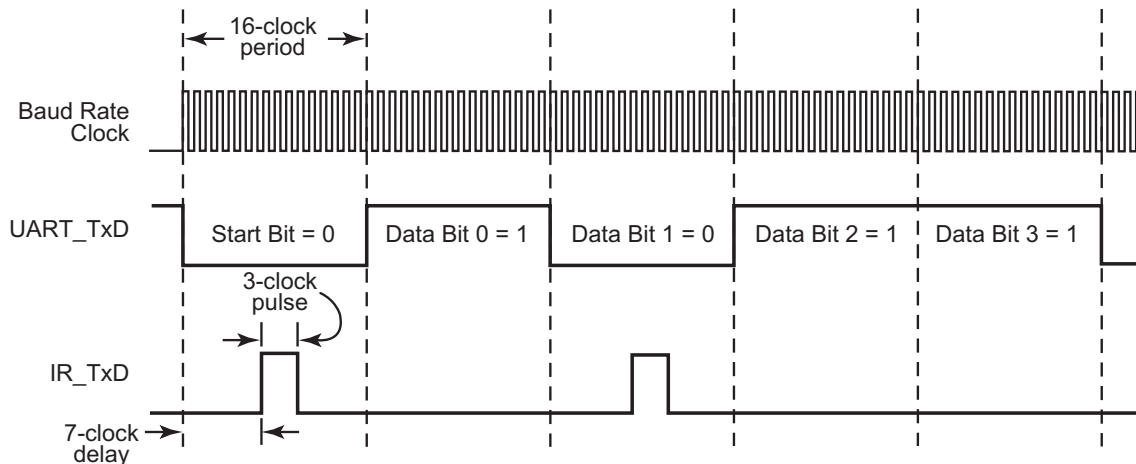

Figure 37. Infrared Data Transmission
The data to be transmitted via the IR transceiver is first data sent to UART0. The UART transmit signal, Tx_D, and Baud Rate Clock are used by the endec to generate the modulation signal, IR_{TxD}, that drives the infrared transceiver. Each UART bit is 16 clocks wide. If the data to be transmitted is a logical 1 (High), the IR_{TxD} signal remains Low (0) for the full 16-clock period. If the data to be transmitted is a logical 0, a 3-clock High (1) pulse is output following a 7-clock Low (0) period. Following the 3-clock High pulse, a 6-clock Low pulse completes the full 16-clock data period. Data transmission is illustrated in Figure 37. During data transmission, the IR receive function should be disabled by clearing the IR_{RxEN} bit in the IR_{CTL} reg to 0 to prevent transmitter-to-receiver crosstalk.